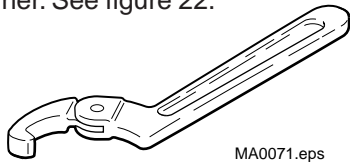

Figure 22. Claw Type Spanner Wrench
2. Use a claw type spanner wrench to remove the retainer. See figure 22.